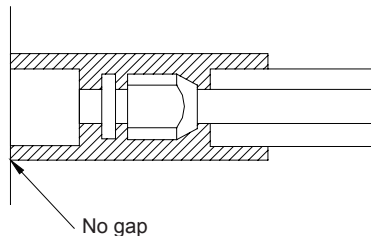

Fig.5
- 2). The joints of the indoor unit should be wrapped with the insulating material and no gap is allowed on the joint of the indoor unit, as shown in Fig.5.